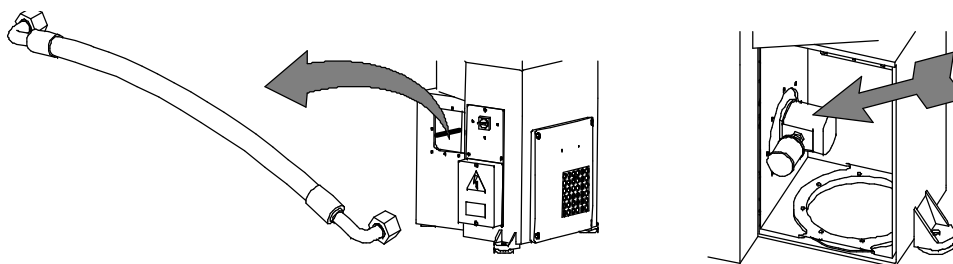

Fig. 27
a) Check that there is no leakage under pressure from the delivery pipe (code 02003636, tav. 4-5-6) and from the pertinent mechanic fittings while the machine is trying to cut (left Fig. 27).
b) Also check if there is any oil leakage under pressure from the pump (for S/SE108: code 02001196 (50Hz) - code 02001162 (60Hz); for S/SE116/120C: code 02003899 (50 Hz) - code 02003898 (60 Hz); for S/SE120/122/124C/124/125C/125/125L: code 02003900 (50 Hz) - code 02003899 (60 Hz), tav. 4-5-6) (right Fig. 27).